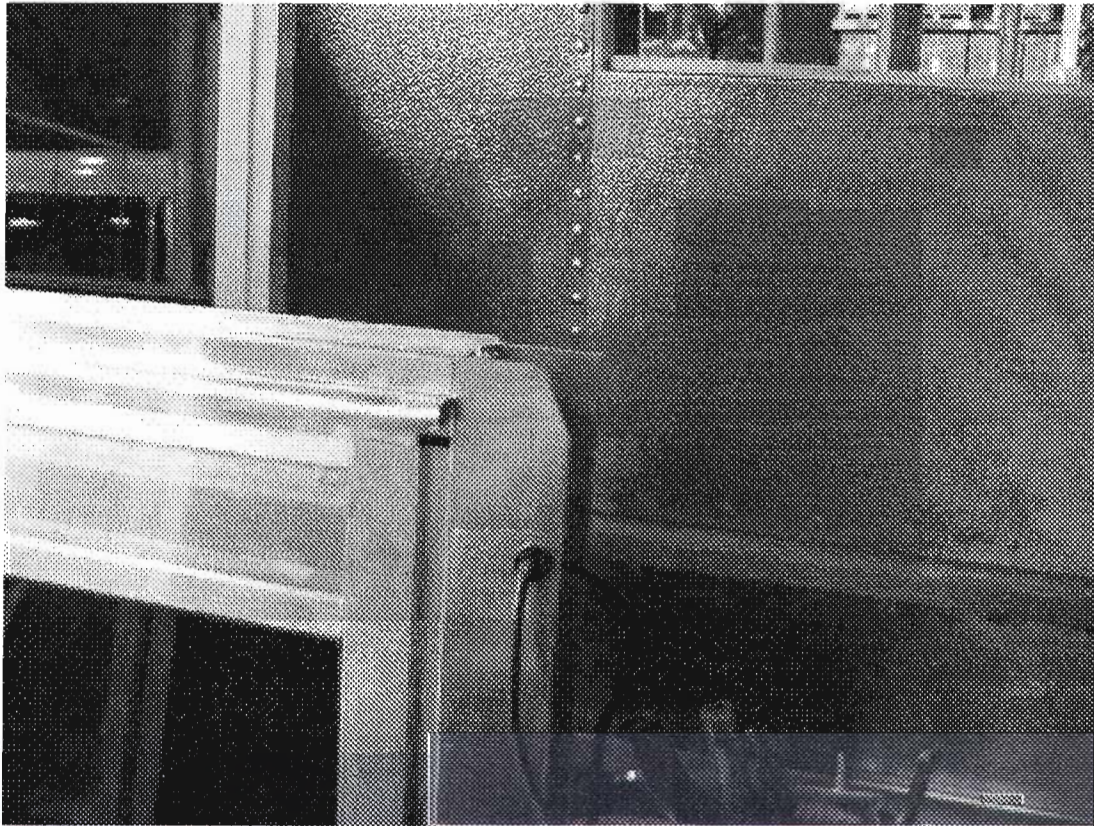

FIGURE 3
7. On the switched / wiring side of the window, using snips, cut an approximately $\frac{1}{2}$ " X $\frac{1}{2}$ " chamfer on the outer, top corner of the window frame. This creates clearance for the wire and grommet pass-through in the header. **Figure 3**